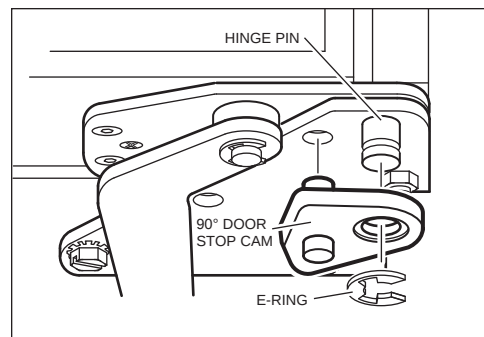

Figure 2-13. 90° Stop Cam
- With door closed, place door stop cam up over hinge pin, making sure stub on cam fits into hole in lower cabinet hinge (See Figure 2-13).
- Secure door stop cam by pushing E-ring into groove at end of hinge pin (See Figure 2-13).